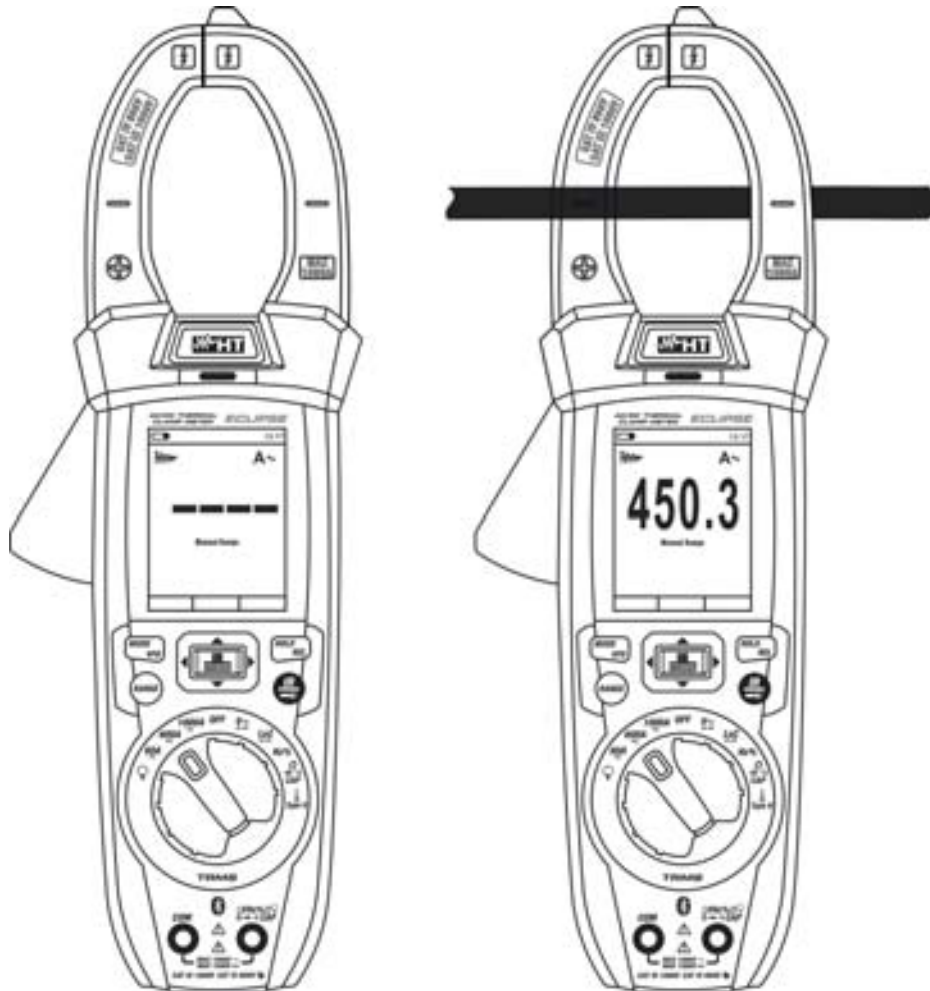

Fig. 33: Use of the instrument for AC Inrush current measurement
3. Long press the key **INRUSH** to activate the “INRUSH” function. The “ $\tilde{\sim}$ ” and “- - -” symbols appears at display (see Fig. 33 – left side)
4. Put the conductor to be tested inside to the center of clamp jaw (see Fig. 33 – right side) in order to perform accurated measurements. Consider the notches on jaws as reference (see Fig. 3)